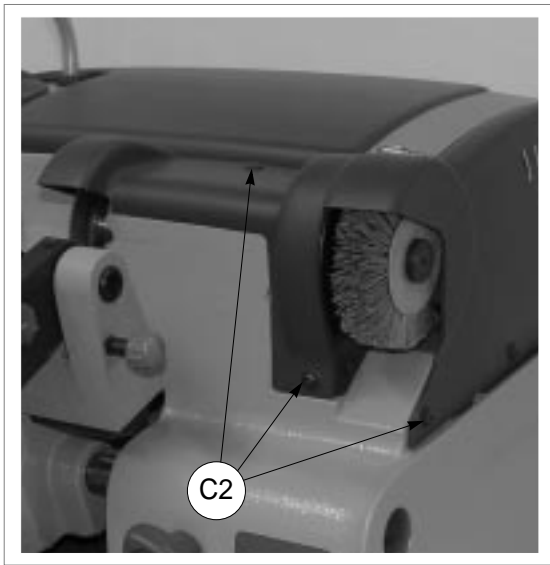

Fig. 23
- 1) Loosen the 3 screws (C2) on the cutter shield and remove (fig. 23).